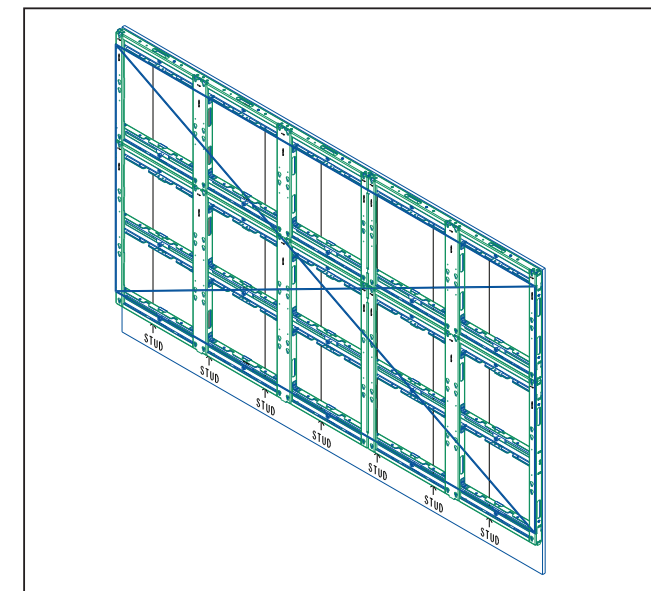

Figure 13: Secure String Line
- Use the frame alignment tabs closest to the display corners and secure a string line in an X pattern. Refer to **Figure 13**.